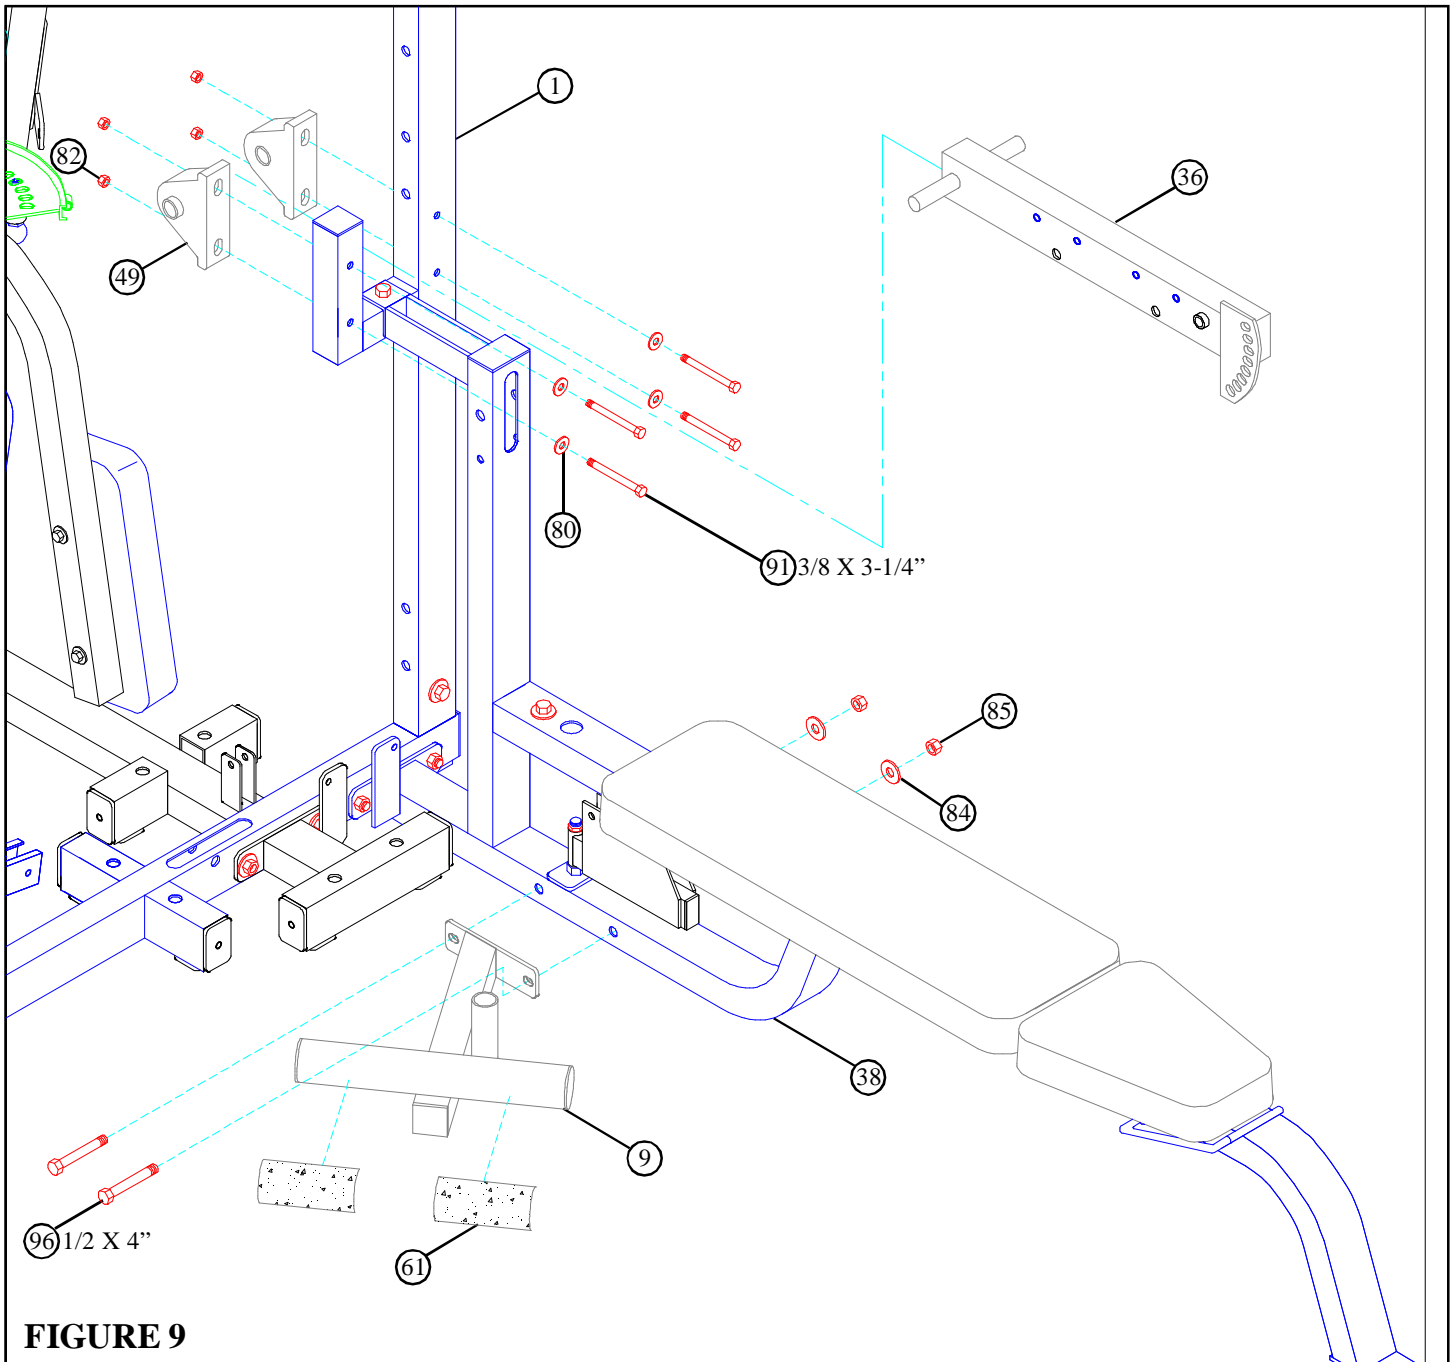

**FIGURE 8**
- Slide two HINGE TABS (76) onto the WOLFF SLEEVE (14) and **SECURELY** attach PRESS SEAT PAD (100) using two 3/8 X 1-1/4" BOLTS (88) and two 3/8" WASHERS (80). (**NOTE: The "hinge" part of the HINGE TAB (76) should face upward as shown in FIGURE 8.**)
- Slide the RIGHT BACK PAD ANGLE (5) and LEFT BACK PAD ANGLE (4) onto the WOLFF SLEEVE (14) and attach the PRESS BACK PAD (101) using four 3/8 X 1-1/4" BOLTS (88) and four 3/8" WASHERS (80). See FIGURE 8.
- **SECURE** two 2 X 15-1/2" PLATES (56) to the RIGHT BACK PAD ANGLE (5) and the LEFT BACK PAD ANGLE (4) using two 1/2 X 1-1/4" BOLTS (93), two 1/2" WASHERS (84) and two 1/2" LOW HEIGHT LOCK NUTS (86). (**NOTE: SECURE lock nuts, then back off 1/4 turn.**)
- **SECURE** the 2 X 15-1/2" PLATES (56) to the bushing in the PRESS BASE (38) using one 1/2 X 6-1/2" BOLT (97) and one 1/2" LOCK NUT (85) as shown in FIGURE 8.
- Apply one 1-1/4" RUBBER BUMPER (54) to the PRESS FRAME (37) where the back of the pad comes in contact with the frame.